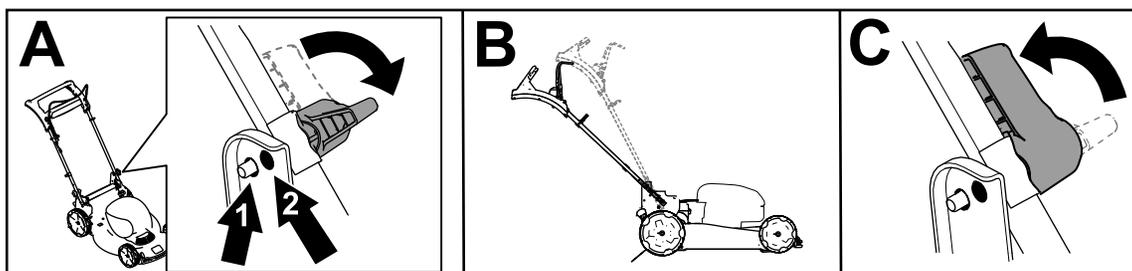

Figure 9
1. On both sides of the machine, rotate the handle locks (A of Figure 9).
2. Adjust the position of the handle to the upper (high handle height) or lower (lower handle height) position (B of Figure 9).
3. When the handle is in the desired position, rotate the handle locks back until the pin clicks to secure the handle (C of Figure 9).